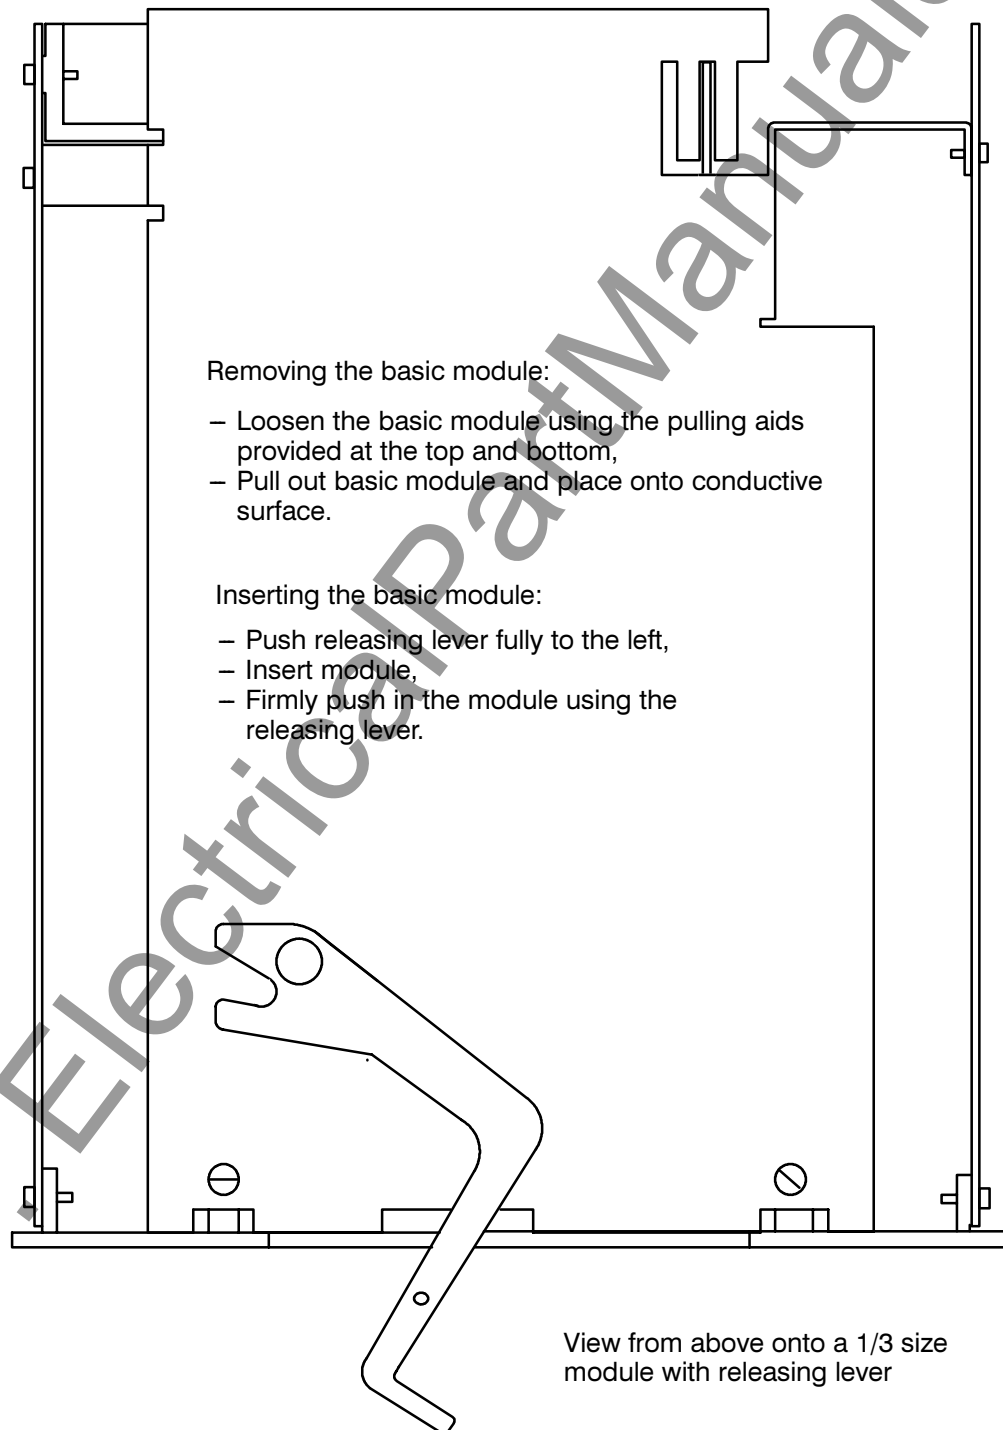

Figure 7.5 Aid for removing and inserting basic module
- Loosen the basic module using the pulling aids provided at the top and bottom. (Figure 7.5).
- Firmly push in the module using the releasing lever. (Figure 7.5).
- Insert basic module into the housing; ensure that the releasing lever is pushed fully to the left before the module is pressed in (Figure 7.5).